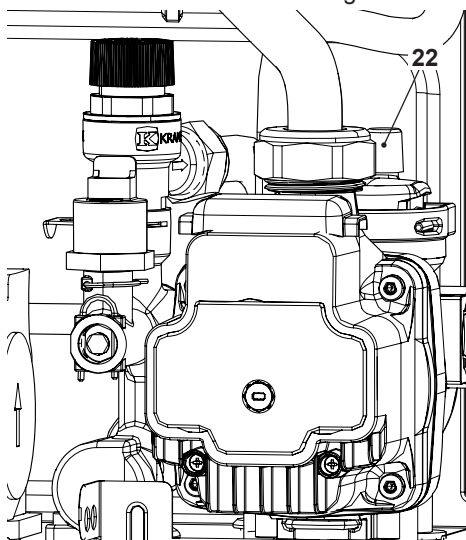

Fig. 10.9
- To make draining easier, lift the plug 22 of the automatic relief valve in Fig. 10.9.